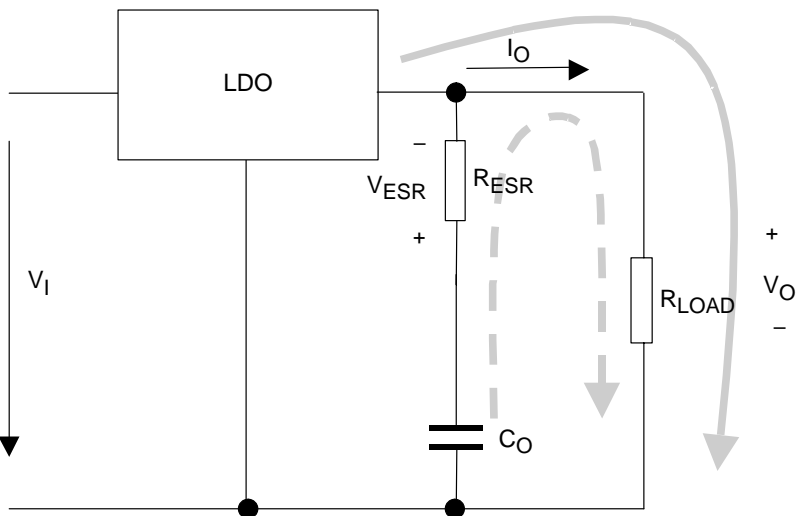
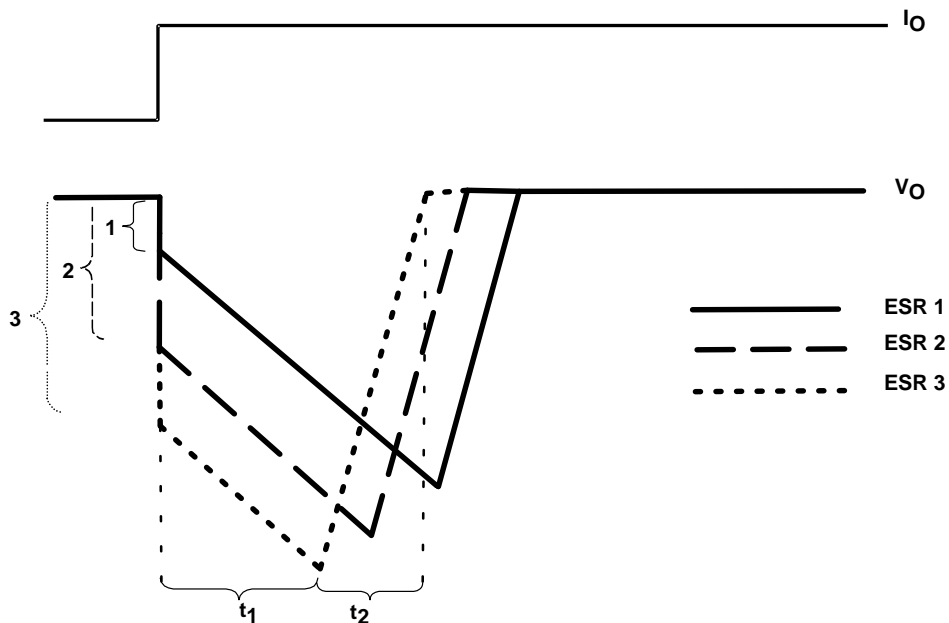

Figure 38. LDO Output Stage With Parasitic Resistances ESR
Figure 39. Correlation of Different ESRs and Their Influence to the Regulation of V_O at a Load Step From Low-to-High Output Current
Figure 38 shows the output capacitor and its parasitic impedances in a typical LDO output stage.
- The LDO is not able to supply the sudden current need due to its response time (t_1 in Figure 39). Therefore, capacitor C_O provides the current for the new load condition (dashed arrow). C_O now acts like a battery with an internal resistance, ESR. Depending on the current demand at the output, a voltage drop occurs at R_{ESR} . This voltage is shown as V_{ESR} in Figure 38.
- When C_O is conducting current to the load, initial voltage at the load will be $V_O = V(C_O) - V_{ESR}$. Due to the discharge of C_O , the output voltage V_O will drop continuously until the response time t_1 of the LDO is reached and the LDO resumes supplying the load. From this point, the output voltage starts rising again until it reaches the regulated voltage. This period is shown as t_2 in Figure 39.